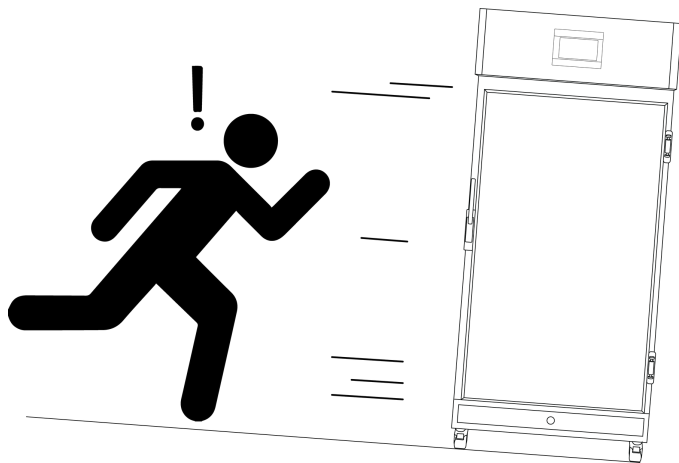

Fig 1.
- Castors can be fixed in place by pushing down on the brake lever. Ensure the castors are locked to prevent unwanted movement from the cabinet. **(Fig 1)**